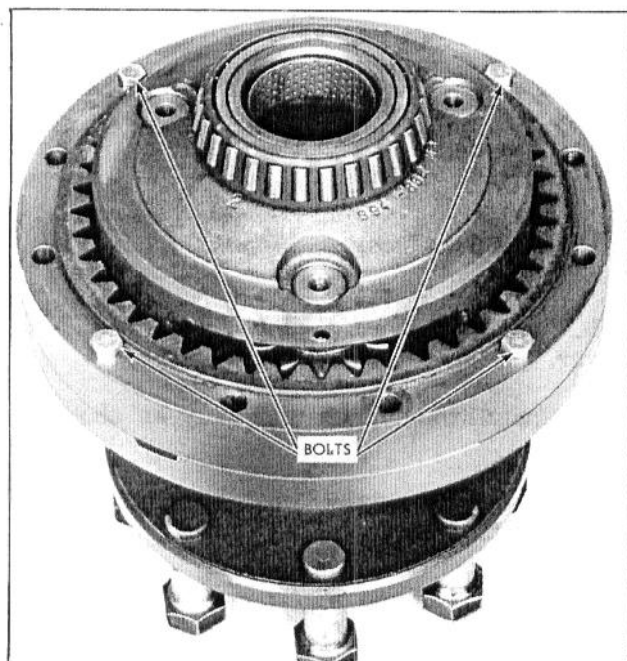

Fig. 36 - Axle Planetary with Ring Gear Attached for Pre-Load Adjustment
3. Securely fasten the ring gear to the planetary drive cover with 4 equally spaced bolts and tighten to 50 to 55 ft.-lbs. torque. Refer to Fig. 36.